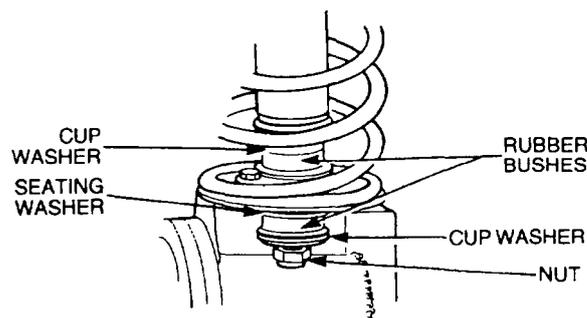

Figure 74 Front Shock Absorber Mounting
- m. Remove the nut securing each front shock absorber to the axle casing. Remove the lower cup washer, rubber bush and seating washer from the shock absorbers (Figure 74).
- k. Ensure that the upper cup washer, rubber bush and seating washers are fitted to the shock absorbers threaded rods (Figure 74).